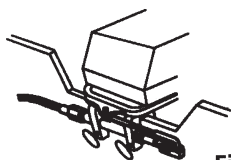

Fig. 1
**TILT TUBE MOUNTING - Fig. 1**